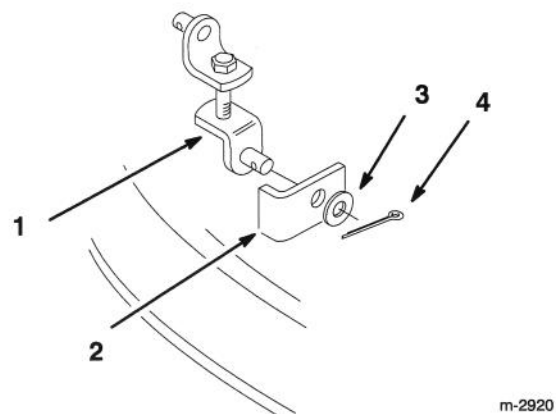

Figure 3
6. Place adjustable link on mower bracket and secure with 1/2" (13 mm) washer and cotter pin (Fig. 3).